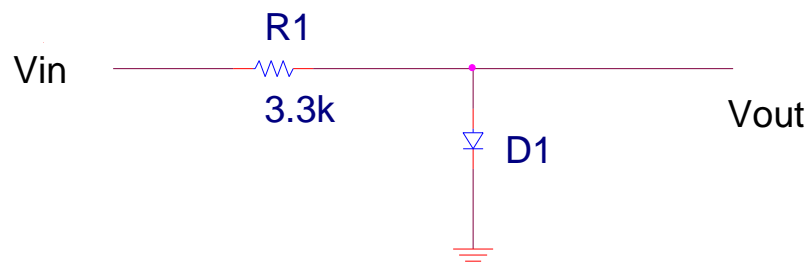

FIGURE 2
Given the circuit in Figure 2, **sketch by hand** (do not use LTspice) the input v_{in} and output v_{out} signals expected. Assume diode forward voltage drop is 0.6V.
Given the circuit in Figure 2 , **sketch by hand** (do not use LTspice) the input v_{in} and output v_{out} signals expected if
1. Build the clipping circuit Figure 2 of the pre-lab on LTspice with an 1kHz 8V_{PP} sinewave input with an offset of 2V. Plot the input and output voltage waveforms.